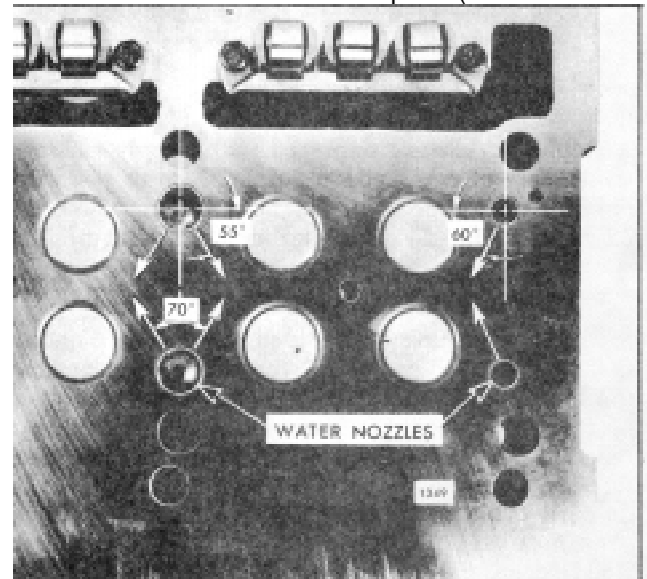

Fig. 13 - Correct Installation of Water Nozzles in Four-Valve Cylinder Head
- c. For the positioning of the nozzles in a four-valve cylinder head, refer to Fig. 13. Press the nozzles flush to .0312" recessed below the surface of the cylinder head.